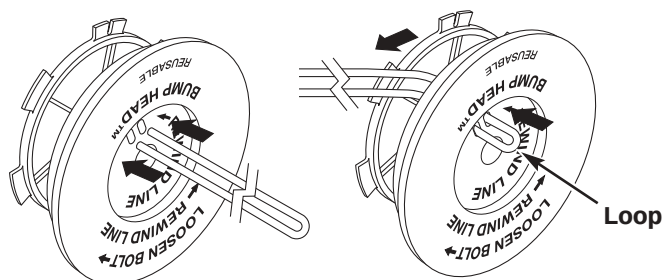

Fig. 28
- Take approximately 20 feet (6 m) of new trimming line, loop it into two equal lengths. Insert each end of the line through one of the two holes in the inner reel (Fig. 28). Pull the line through the inner reel so that the loop is as small as possible.